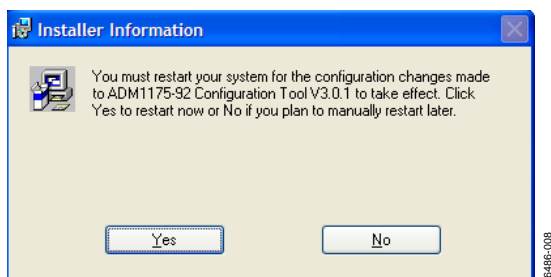

Figure 8. Installation Restart Reminder
8. Click **Finish**. The message shown in Figure 8 appears, indicating that you must restart the system for the configuration changes to take effect. Click **Yes** to restart the PC immediately; click **No** to manually restart later.